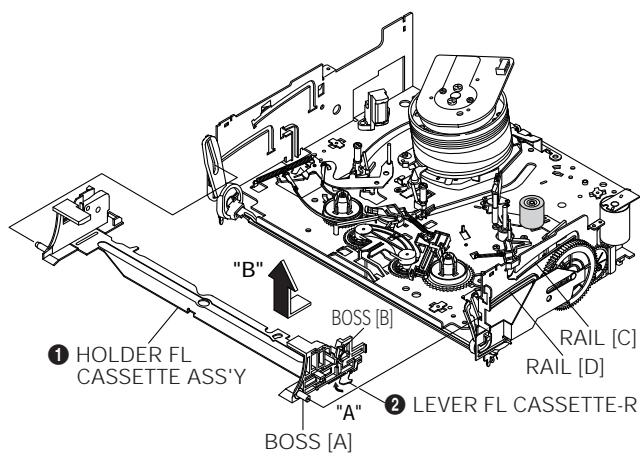

Fig. 1-6 Holder FL Cassette Ass'y Removal
- 2) Remove the Holder FL Cassette Ass'y. (Refer to Fig. 1-6)
- 3) Release the Hook ① in the direction of arrow "A", pull out the Lever FL Arm Ass'y ④ from the Boss of Main Base.
- 4) Remove the Lever FL Arm Ass'y ④ in the direction of arrow "B".